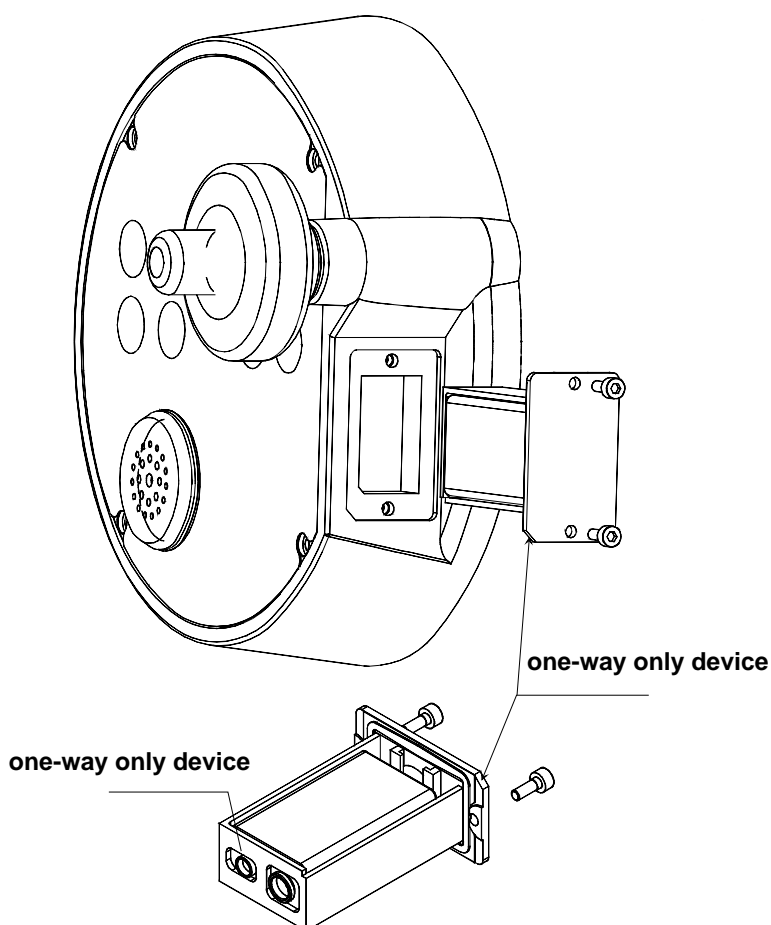
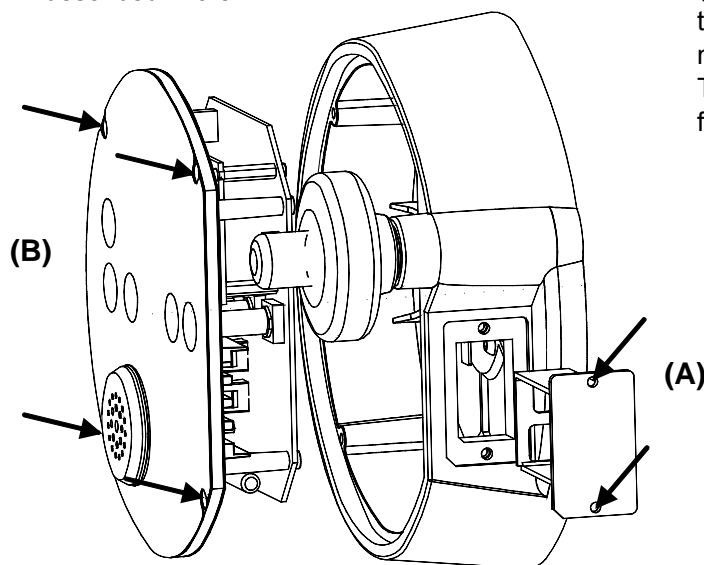

Figure 10-4
Figure 10-11
- Unscrew the 2 screws of the battery holder using the 2,5 mm Hex Allen key which is located on the carrying case. See Figure 10-4.
- Change the battery (one-way only device). See Figure 10-4.
- Unscrew with the 2.5 Allen key the 2 screws (A) of the battery holder and pull it out as shown on Figure 10-11.
- Unscrew with the 2.5 Allen key the 4 screws (B) of the display unit and pull it gently out of the electronic box, as shown on Figure 10-11.
- Put back the new display unit in the electronic box; tighten the 4 screws (B) of Figure 10-11.
- Reinstall the battery holder with the 2 screws (A) of Figure 10-11. Refer to Figure 10-4 page 37.
- if the equipment (Q2) removed on Figure 10-11;